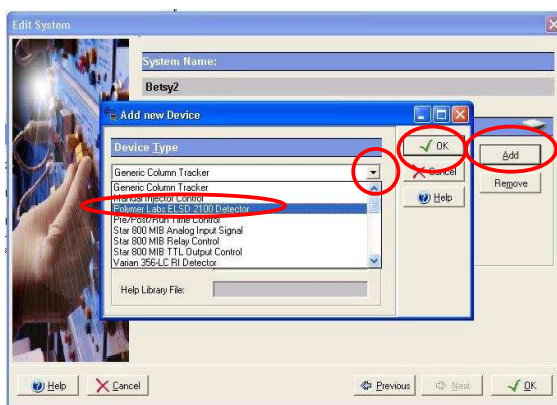

Figure 6: Add New Device Window
6. Click **Next** twice until the following screen appears (Fig 6). Click on the **Add** button and the *Add new Device* window will appear. Click on the pull down menu and select the “*Polymer Labs ELSD 2100 Detector*” driver. This driver is selected for the Polymer labs 2100/2100ICE, 380 and 385 ELSD instruments. Once selected click **OK** and this will add the ELSD to the instrument devices to be installed under this system.